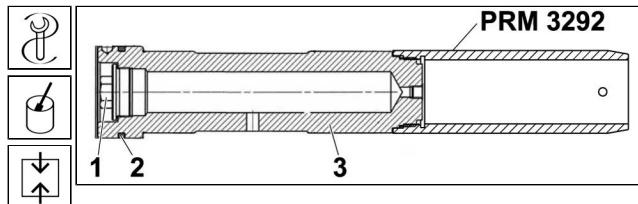

Fig. 4.85 Intermediate gear pin
94. Install the assembling mandrel of the intermediate gear pin **PRM 3292** c/w intermediate gear pin (See Fig. 4.85) into a hole in bearings so that the spacer washers are not taken down.